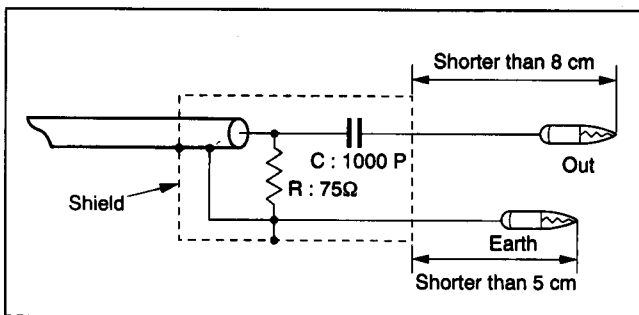

Fig. 3-5-1 Sweeper probe
- (1) Use a sweeper probe as shown in Fig. 3-5-1.
- (2) Supply 1 kHz R-only modulated IF signal to IF terminal of U/V tuner (front end).
- (3) Connect an oscilloscope to CN1501-pin 3.
- (4) Adjust VR1501 for minimum output level.